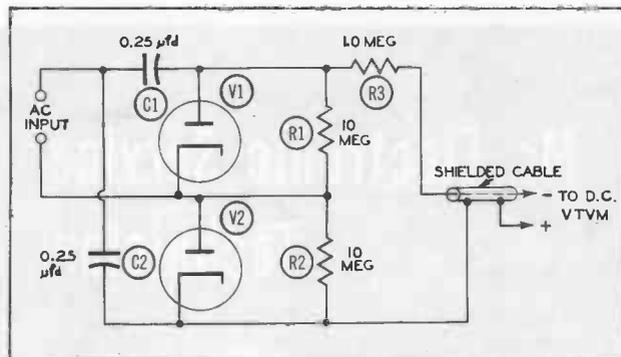

Figure 4. Peak-to-Peak Probe.
**3. AC Peak-to-Peak Probe.** This type of probe, shown in Figure 4, is useful for measuring the peak-to-peak value of complex, non-sinusoidal waveforms in television circuits. The circuit is seen to consist of two separate shunt-diode peak rectifiers with their inputs in parallel and their outputs in series.
There are a number of VTVM's on the market which contain a separate peak-to-peak voltage scale yet these units will not give a true indication of the peak-to-peak value of any wave except sine waves. Actually, if you examine these instruments carefully you will see that no special provision has been made for obtaining the peak-to-peak value of a wave by a circuit similar to that shown in Figure 4. All these manufacturers have done is simply add another scale to the meter face, labeled it peak-to-peak voltage, and then multiplied each value on the normal rms scale by 2.83. In a sine wave, 2.83 times the rms value will equal the peak-to-peak value. Unfortunately, this relationship does not hold when the wave shape changes.